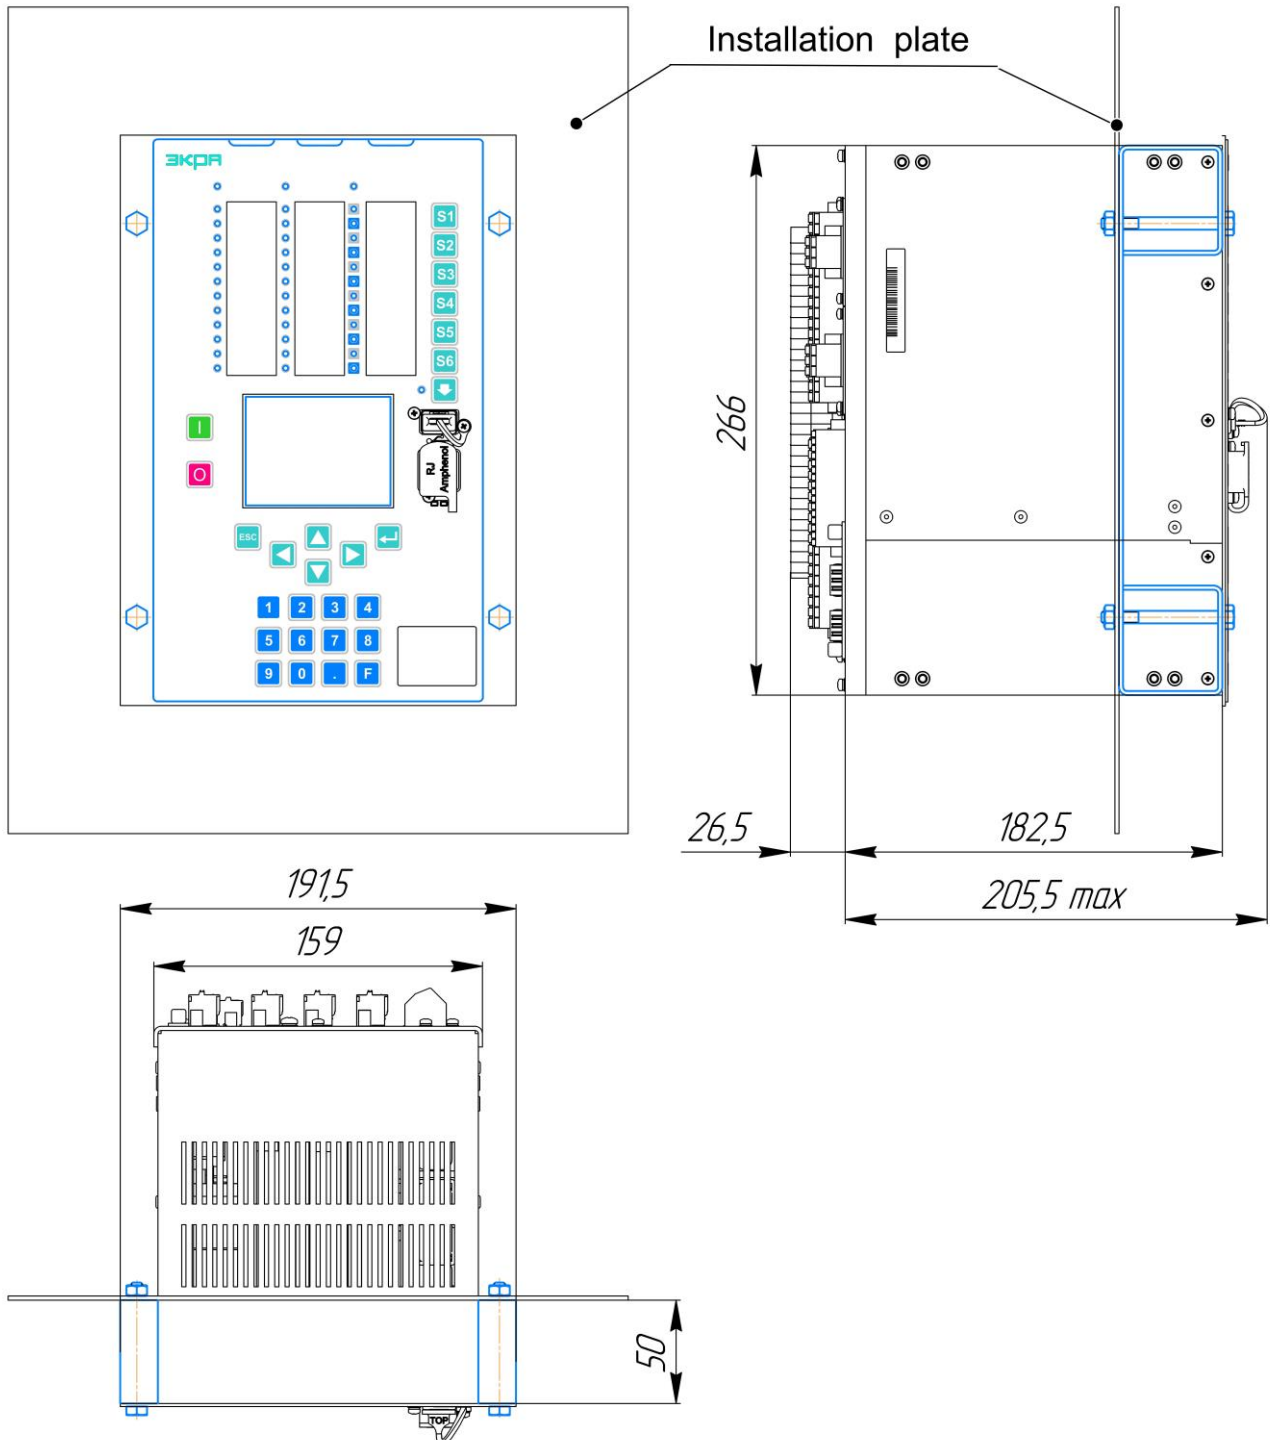

Figure 115 – Installation of the ED2 devices of 1/3 19" design reduced installation depth
11.6.1 Installation of the ED2 devices of 1/3 19" design with reduced installation depth is given in figure 115.